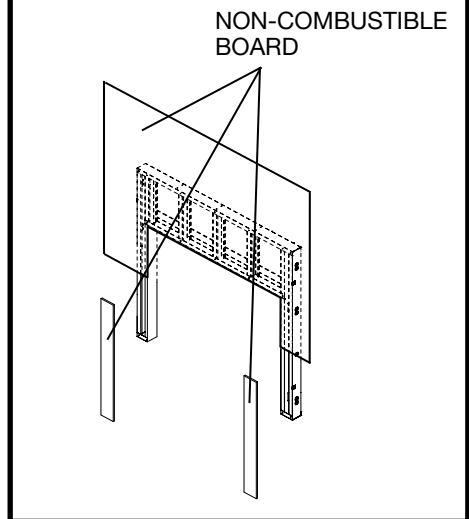

Figure 12: Non combustible calcium silicate board.
**CAUTION:** See Figure 12 on page 9 BEFORE PROCEEDING.